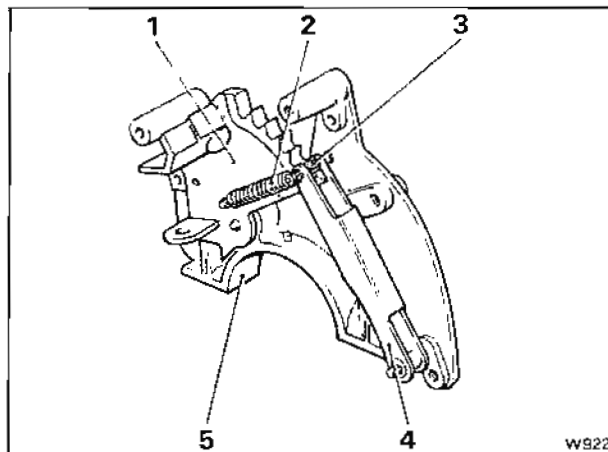

Fig. N4-4 Quadrant to rocking arm assembly
3. Fit the rocker arm assembly, ensuring that the roller lines up correctly with the detent in the quadrant (see fig. N4-4).